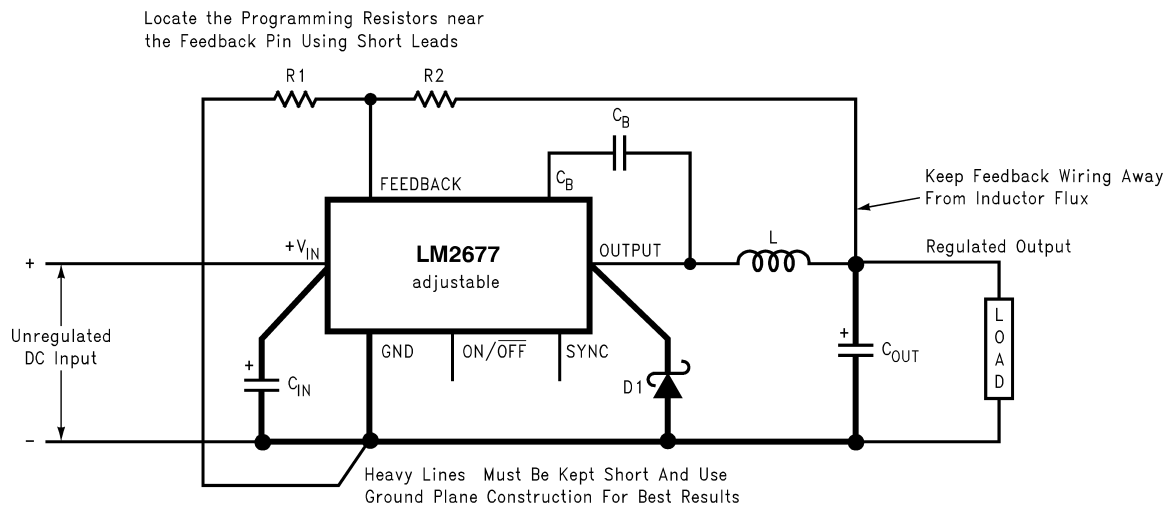

FIGURE 2. Basic circuit for adjustable output voltage applications
**Step 2:** Select an LM2677S-ADJ. To set the output voltage to 14.9V two resistors need to be chosen (R1 and R2 in Figure 2). For the adjustable device the output voltage is set by the following relationship: